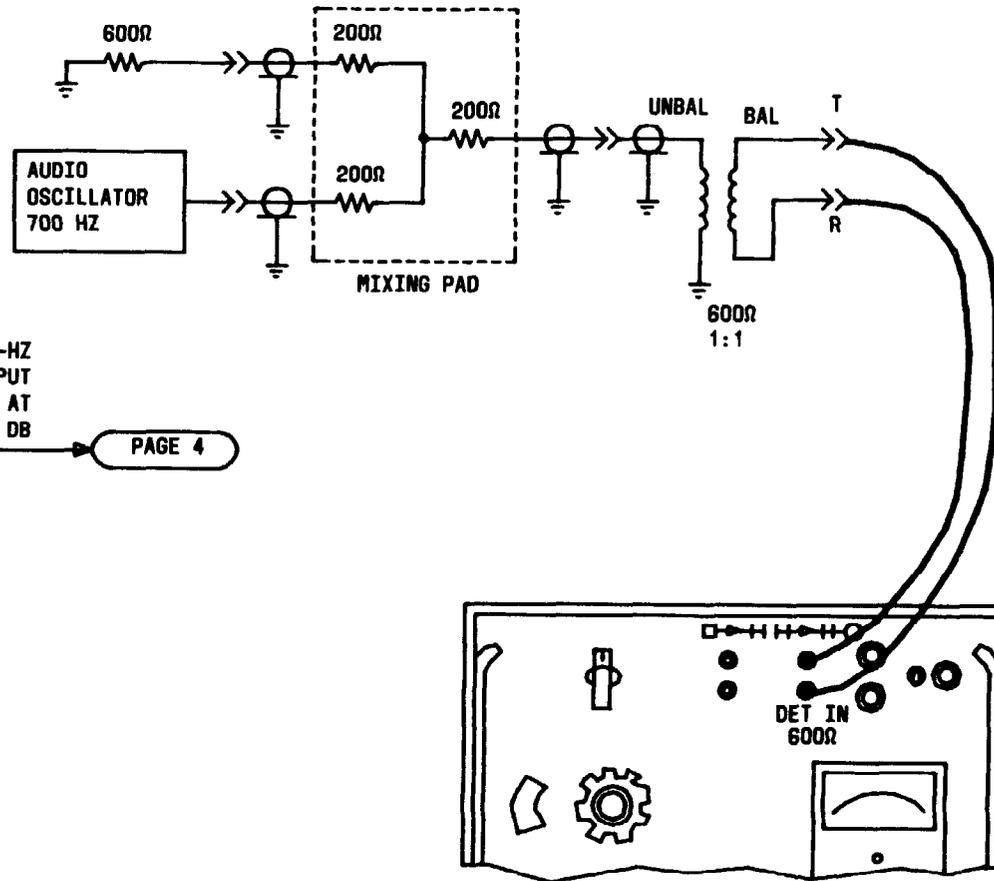

FIG. 4
- [8] SEE FIG. 4. CONNECT DET IN 600Ω INPUT OF TMS TO OUTPUT OF TRANSFORMER
- [9] SEE FIG. 4. CONDITION AUDIO OSCILLATOR FOR TEST [DLP-528] AND CONNECT TO MIXING PAD
- [10] SEE FIG. 4. CONNECT 600Ω RESISTOR TO MIXING PAD